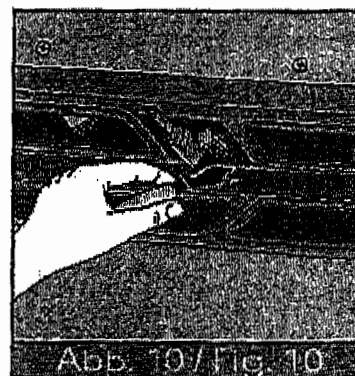

Abb. 8 / Fig. 8
- Loosen the screws above the white plastic sealing. The screws must not be fully unscrewed. (see Fig. 8)